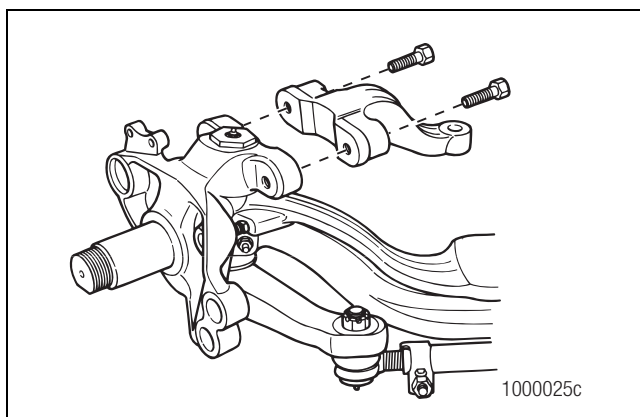

Figure 4.10
- Remove the two steering-arm-to-knuckle capscrews from the knuckle assembly. Figure 4.10.